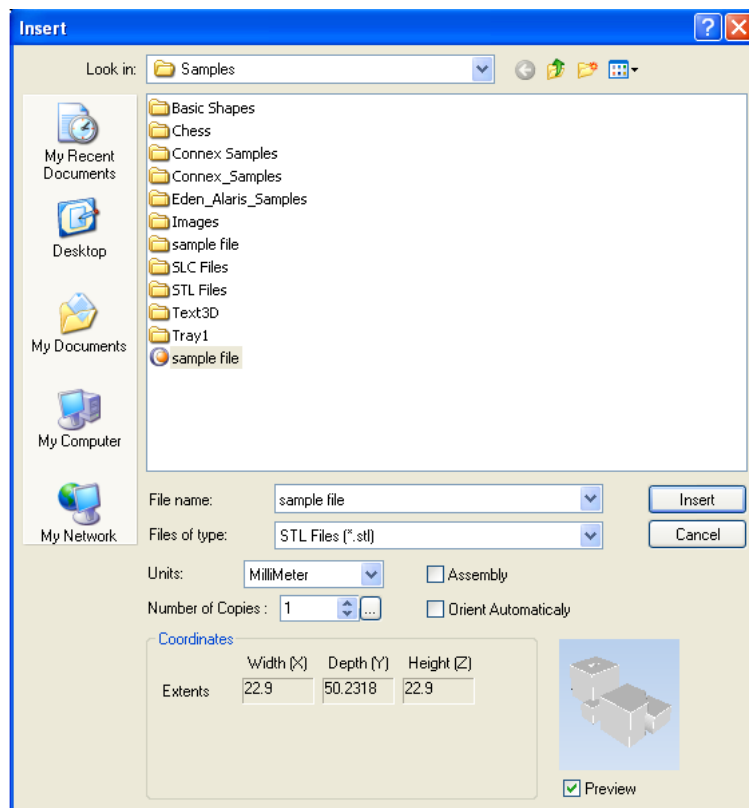

Figure 5-7 *Insert* dialog box
4. Select the desired file, and make sure that it appears in the *File name* field. If the *Preview* check box is selected, the object is displayed in the dialog box, as shown in Figure 5-7.